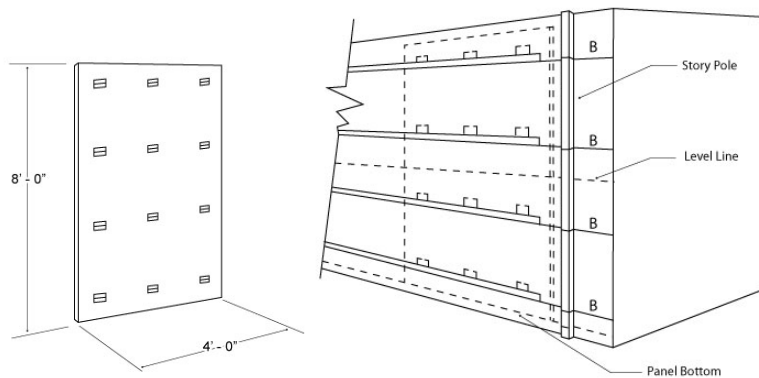

Figure 3 – A schematic shows how clips work with Stonewood Panels for interior wall installation
- C. Clips work in pairs. Part A (top clip) is attached to the panel, and part B (bottom clip, also called furring channel) is fastened to the structural wall. Figure 3 shows how the system works for a 4'x8' panel.